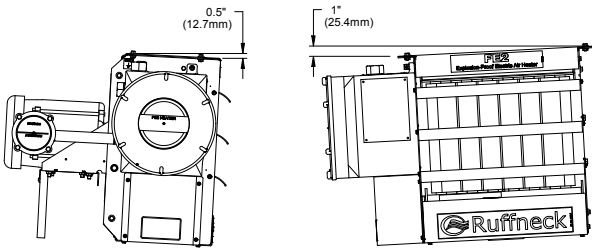

FIGURE 3
1. The heater must be permanently mounted in a level, upright position for operation. See Figures 3, 4, and 5 for maximum tilt angles, installation clearances, and physical dimensions. For ease of installation, a variety of mounting kits are available from the factory.